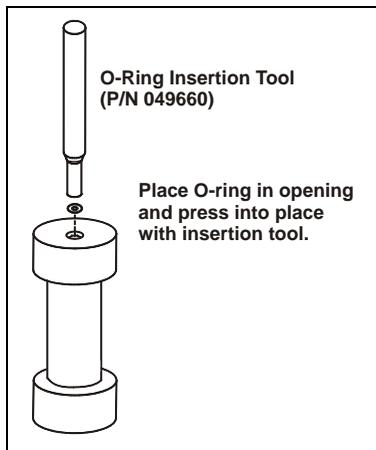

Figure B-10. Installing Cell O-Rings
- If an O-ring is missing, install a new one (see Figure B-10).